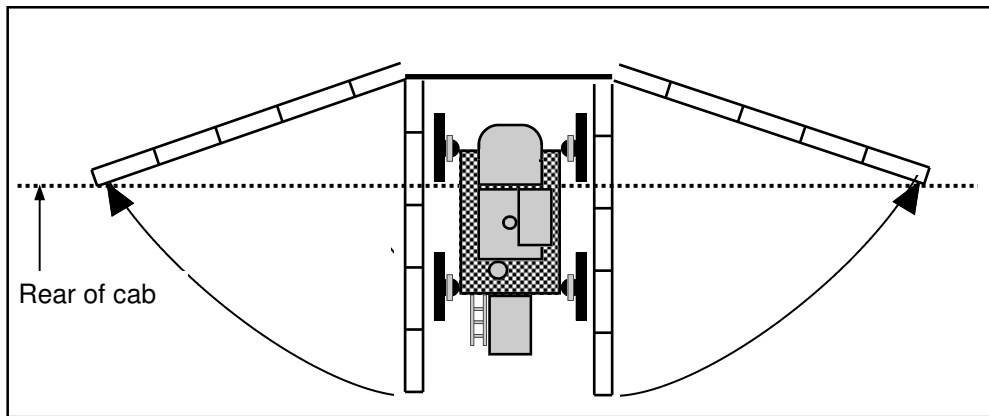

FIG. 60-1
| 3. With the booms folded, horizontally extend the booms so that the folded tip is approximately even with the rear of the cab.   | 60; FIGURE 60-1            |
**OPENING THE BOOM**– The booms must be partially open to keep them stable while off the machine . Open the booms so that the stand on the end of the first section is even with the rear of the cab (fig. 60-1).